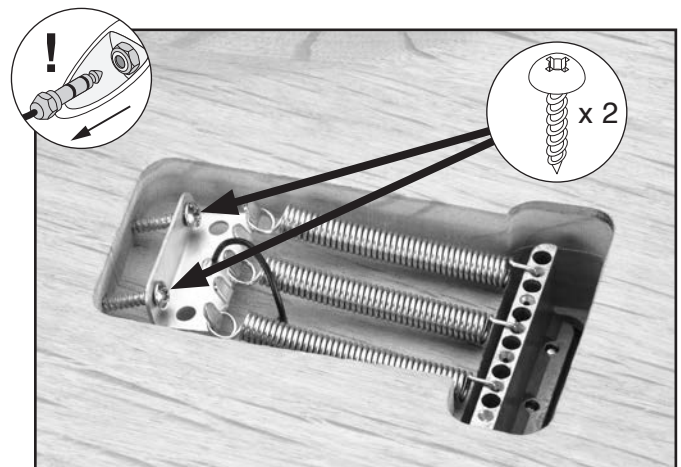

Figure 32. Location of tremelo springs.
3. Locate (2) Phillips head screws securing spring hanger (see **Figure 32**).